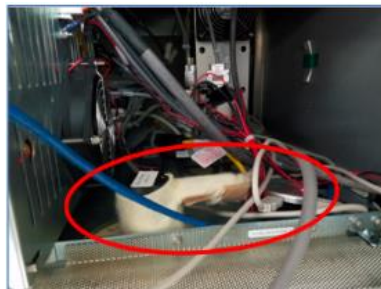

Figure 1. UV Lamp Housing Adjusted Position
4. Rotate the UV lamp housing so that the UV lamp is parallel to the door as shown in figure 1.